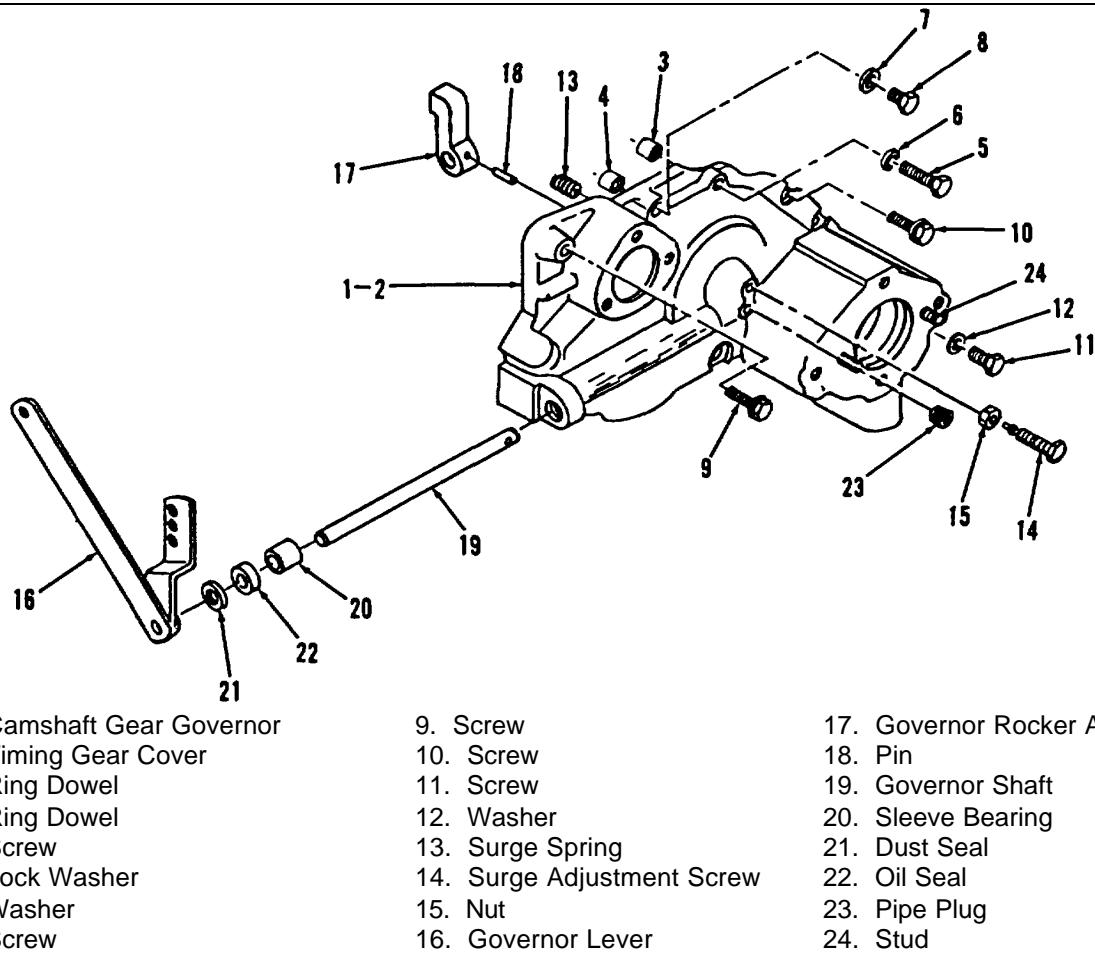

Figure 4-25. Timing Gear Cover and Governor Shaft Group, Exploded View
4-90. REMOVAL. Remove screws and hollow dowels securing the timing gear cover (2, figure 4-25) to the cylinder block and remove cover assembly.
4. Remove pin (18, figure 4-25) and arm (17) from governor control shaft (19).
5. Remove shaft and dust seal (21). Remove oil seal (22) and bearings (20).
6. Remove surge screw (14) and lock nut (15)